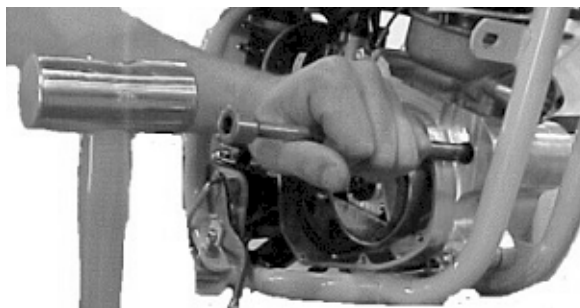

Figure 42
12. Heat engine case around area of impeller lightly with a small propane torch. Using a 3/8" diameter x 8" long steel rod, tap impeller assembly out of engine as shown in figure 42.